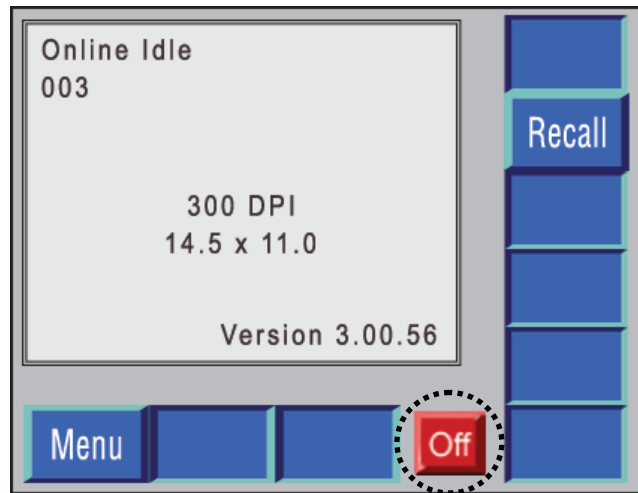

Figure 3-3. Off button for powering down.
Note: The **Off** button is also referred to as the Soft Power switch. See Figure 3-3.
1. Press the **Off** button (Soft Power switch) to initiate the power down cycle. See Figure 3-3.